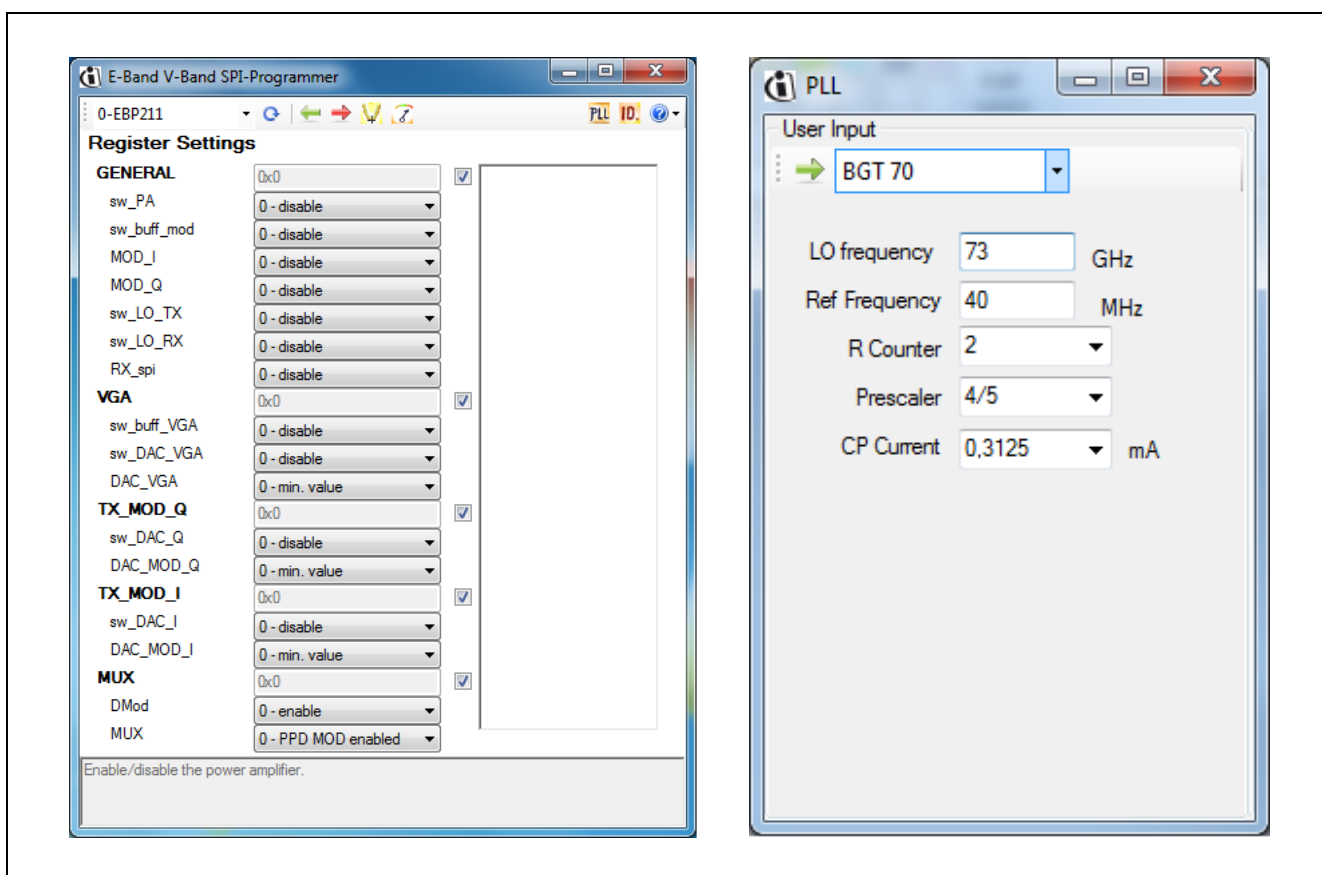

Figure 50 E-Band V-Band SPI-Programmer Main Window and PLL Window
- 2) In the software folder supplied with this transceiver navigate to “E-Band V-Band SPI-Programmer.exe” and double click on it. A window will open as shown in **Figure 50** below.
- 3) Click on the “PLL” button in top right corner of this window. Another window will open which looks like as **Figure 50**.